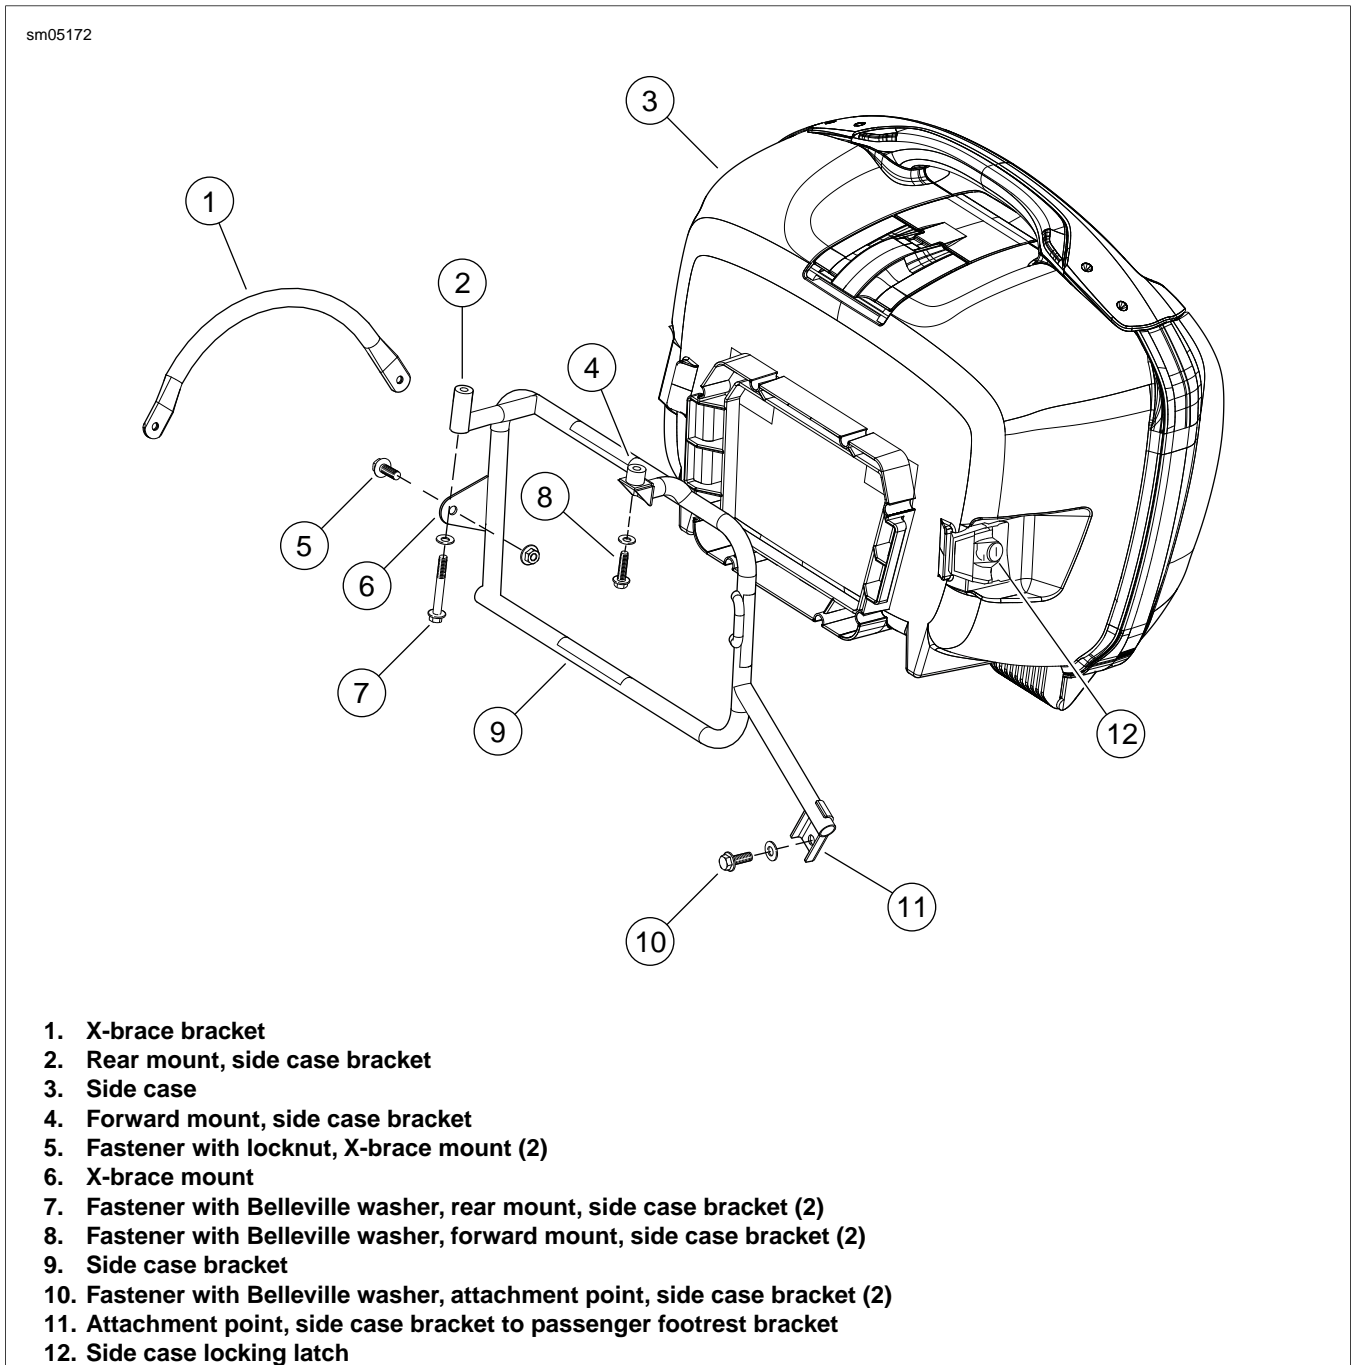

Figure 2-205. Side Case Assembly/Ulysses XB12XT
1. See Figure 2-205. Place key in side case locking latch (12), on front surface of side case, in open position. Open latch.
3. Remove fastener (10) securing the side case bracket (11) to the back of the passenger footrest support bracket.
4. Remove fastener and locknut (5) securing the X-brace bracket (1) to the side case bracket (6).
5. Remove forward fastener (8) securing side case bracket (4) to trunk pan.
6. Remove rear fastener (7) securing side case bracket (2) to trunk pan and remove bracket from vehicle.
1. See Figure 2-205. Install rear fastener (7) securing side case support bracket (2) to trunk pan attaching bracket to vehicle, snug only.
2. Install forward fastener (8) attaching side case bracket (4) to trunk pan, snug only.
3. Install fastener with locknut (5) attaching the X-brace bracket (1) to the side case bracket (6), snug only.
4. Install bolt (10) attaching side case bracket (11) to the back of the passenger footrest support bracket, snug only.